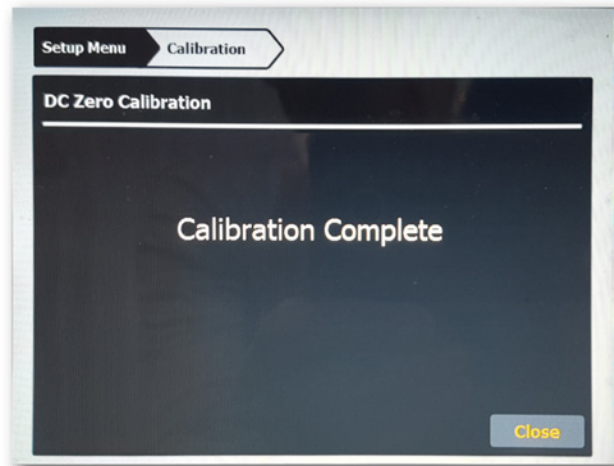

Figure E.12: DC Zero calibration completed
- 5 When completed, the “Calibration complete” message appears (see Figure E.12).